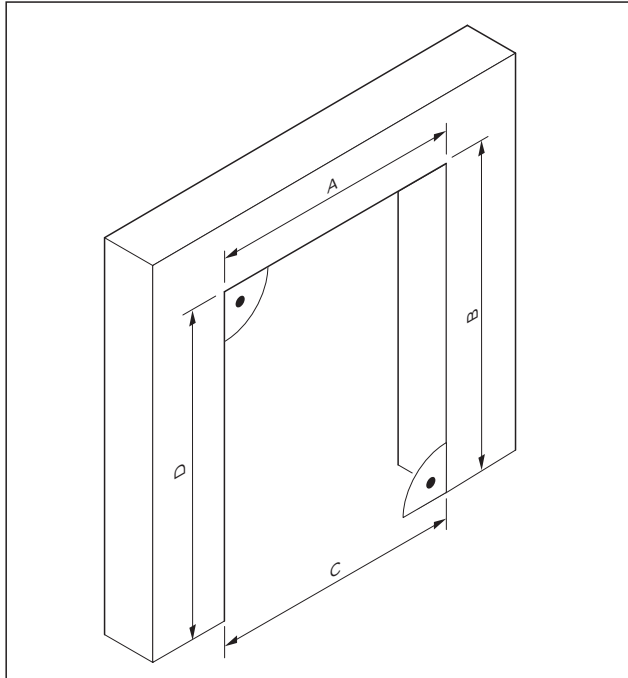

Fig. 24 Determine the dimensions of the passage opening at the assembly location
1. Determine the dimensions of the passage opening at the assembly location (Fig. 24).